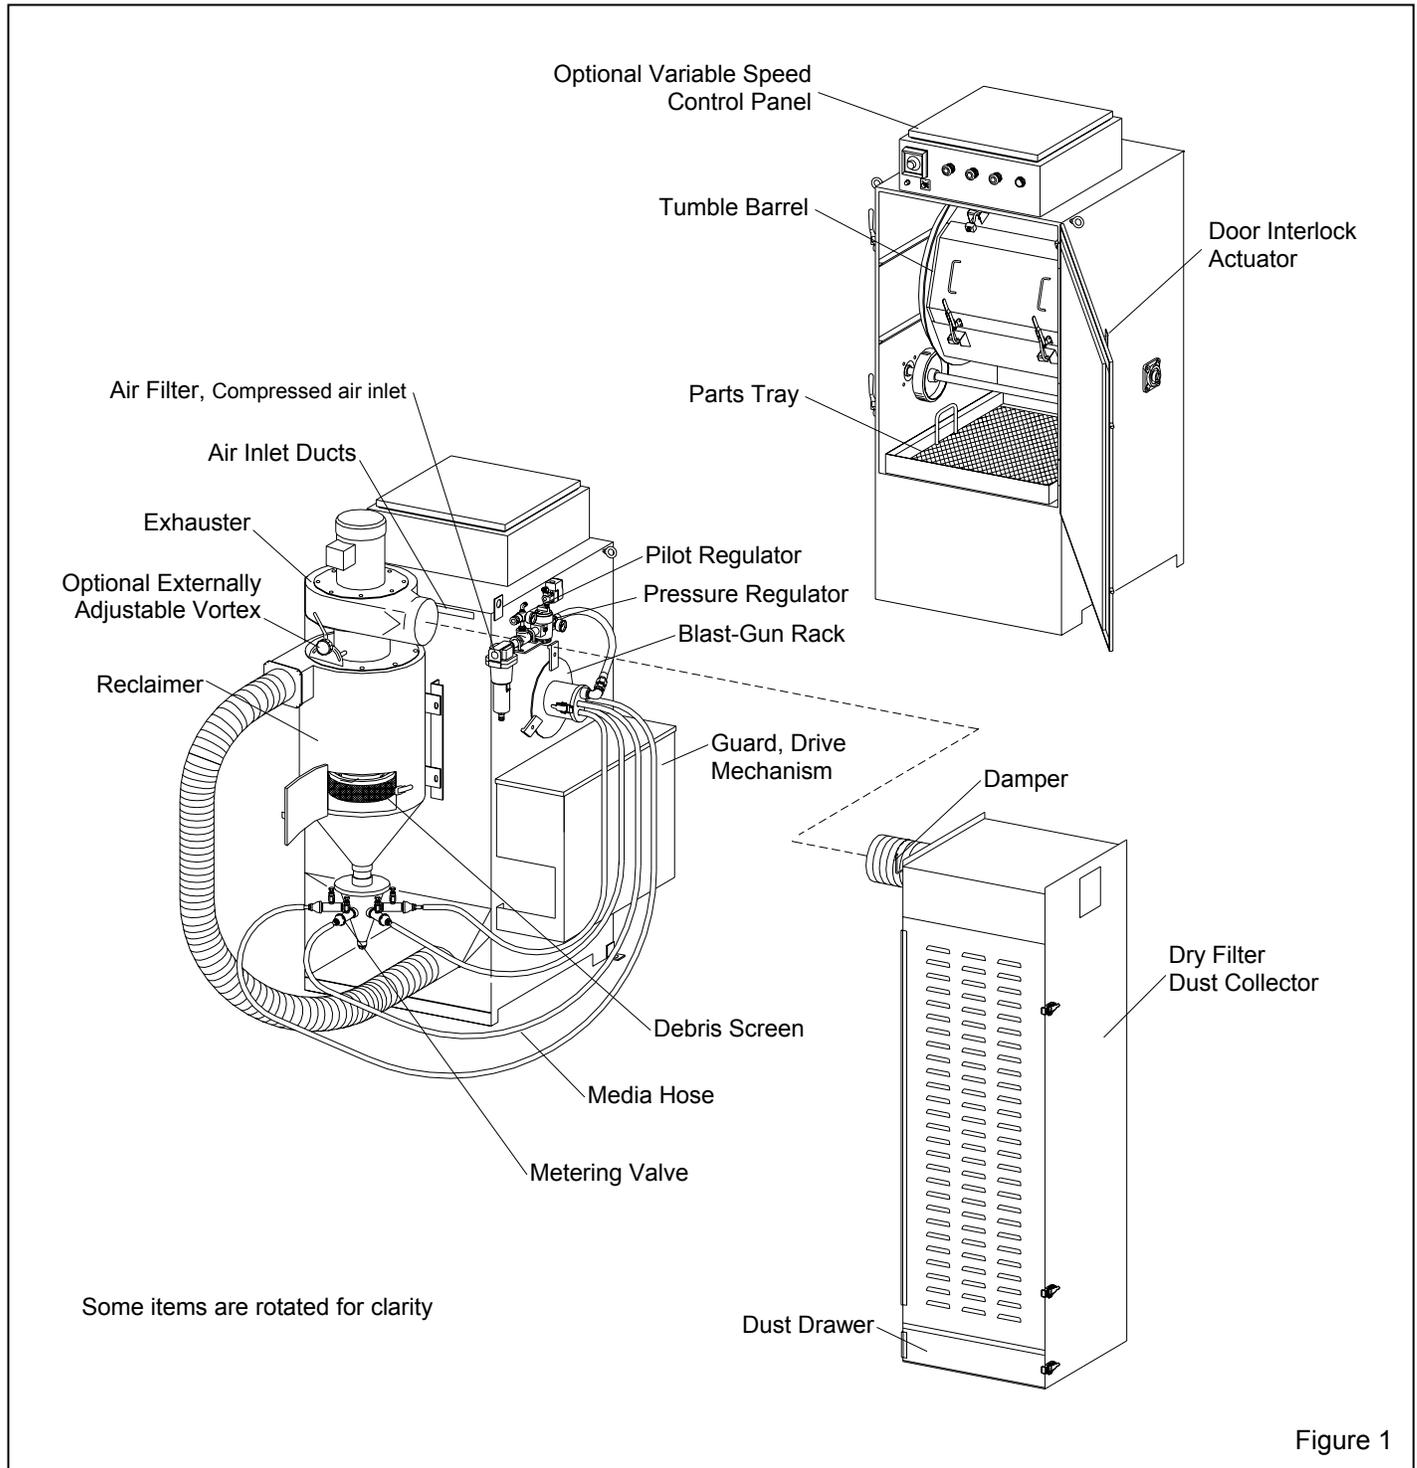
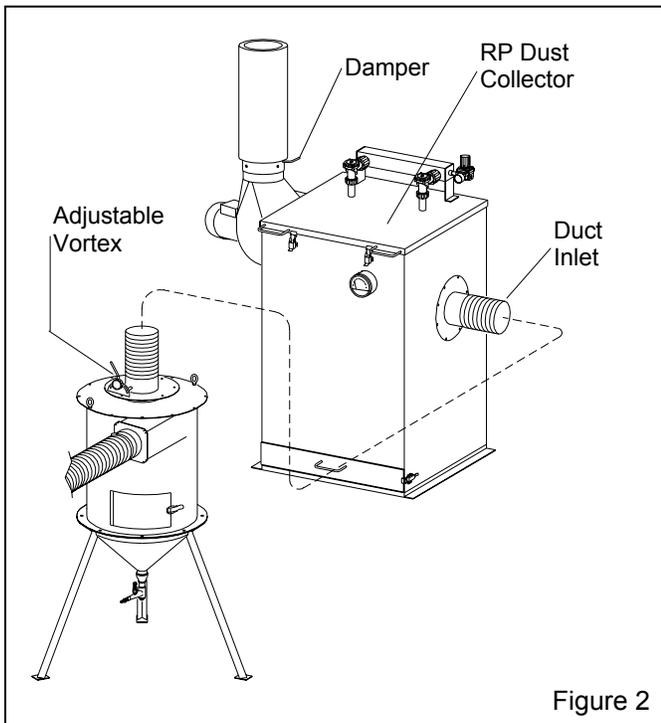

Figure 1
Figure 2
See Figure 1 for arrangement of components with a dry filter. The model shown is a 164 with a 600 cfm reclaimer and dry filter. Figure 2 shows a free standing 900 cfm reclaimer connected to a reverse-pulse dust collector.
**2.1.1** See Figure 1 (and Figure 2 for optional reverse-pulse collector) for the general arrangement. Place all components in a convenient location where compressed air and electrical service are available. The cabinet location must comply with OSHA and local safety codes. Allow for full access to all doors and service areas, and for efficient handling of parts. Provide enough clearance in front of the dust collector to remove the dust drawer without tipping. Place free-standing reclaimers directly behind the cabinet with hose connections toward the cabinet with as few bends as possible. Determine the best location, and position all units before final assembly.